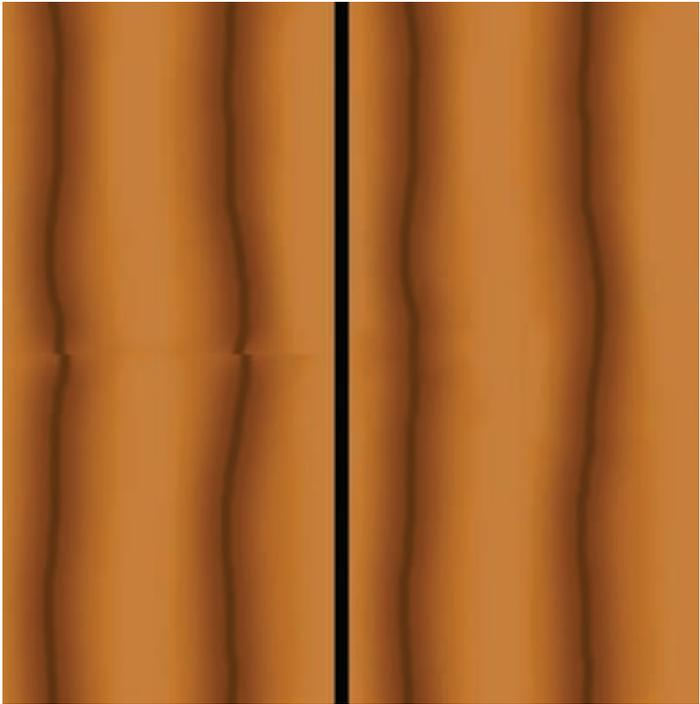

Figure 2.36
16. In my particular image's case, I need to move the Patch layer around a little bit to best fit along the grooves I had drawn earlier. Then, I make a few strokes of the eraser to remove some trouble spots, and I am good to go. Here are my before and after results in Figure 2.36.